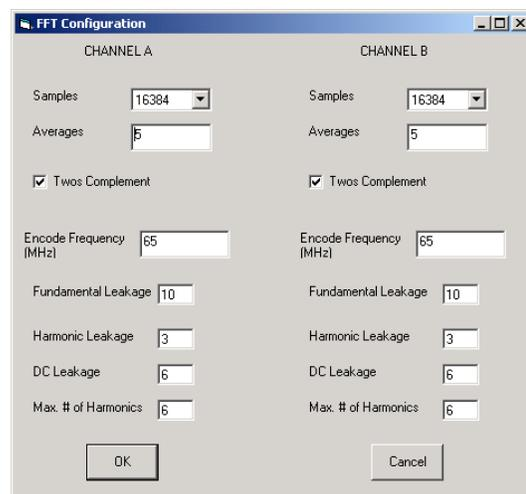

Figure 4. FFT Configuration
2. Next, choose Config>FFT from the pull-down menus. In this window, configure the Fast Fourier Transform plot (see Figure 4). If evaluating a single ADC or a demultiplexed ADC, modify the options under Channel A. If evaluating a dual ADC, modify the options under both channels. After configuring the options in this window, click OK.